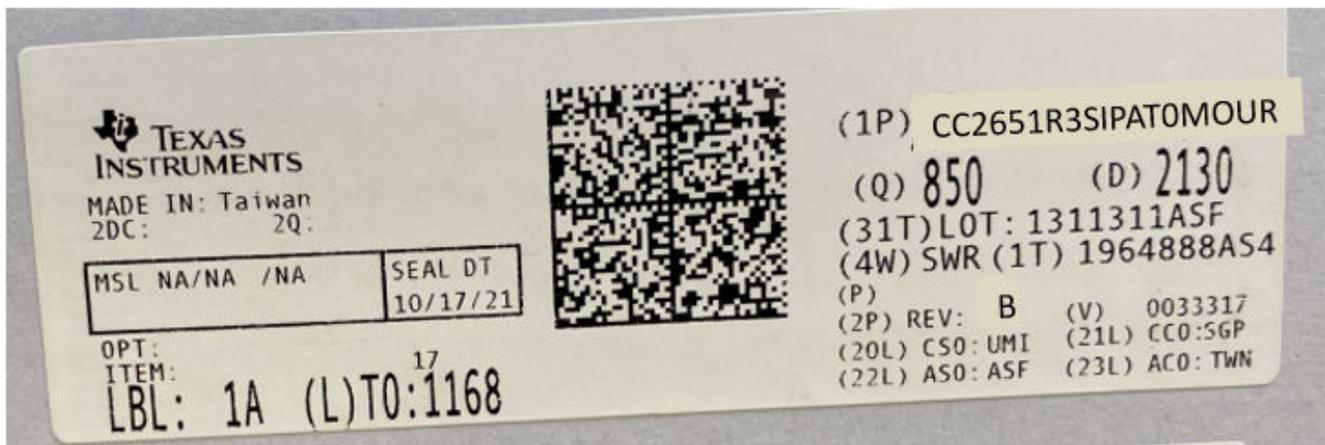

Figure 2-3. Sample Product Shipping Label for the CC2651R3SIPA Device
- The die revision name is shown on the tape and reel label as shown in the example label in Figure 2-3.